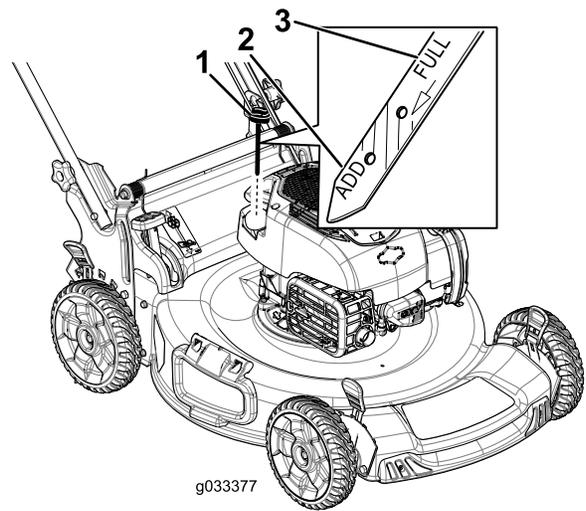

Figure 13
3. Remove the dipstick and check the oil level (Figure 13). If the oil level is below the **Add** mark on the dipstick, slowly pour oil into the oil fill tube to raise the oil level to the **Full** mark on the dipstick. **Do not overfill.**
2. Remove the dipstick, wipe it clean, and fully install the dipstick (Figure 13).